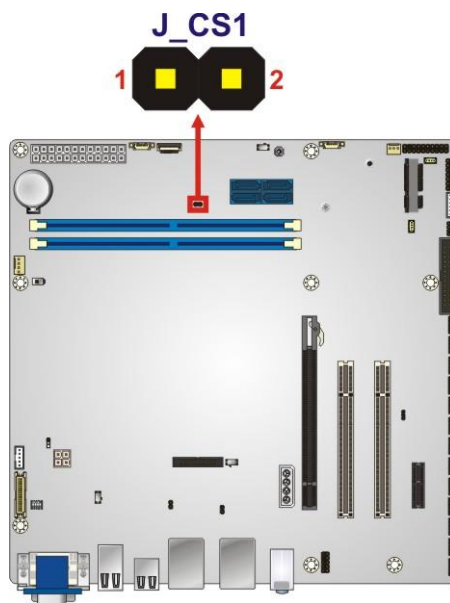

Figure 3-8: Chassis Intrusion Connector Location
- CN Location:** See Figure 3-8